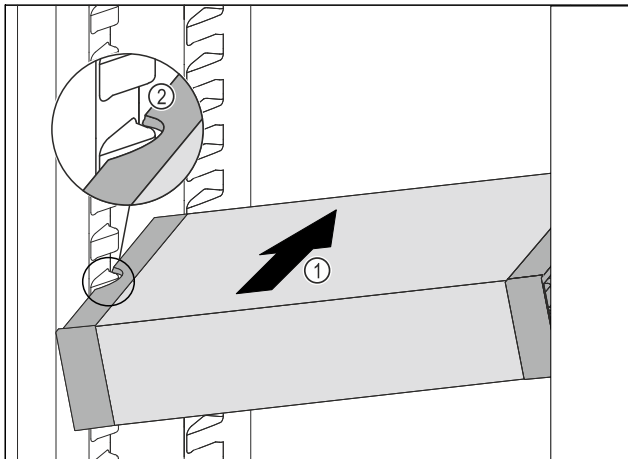

Fig. 115
- Insert the VarioSafe into the fridge section at an angle Fig. 115 (1) until the recesses in the side Fig. 115 (2) of the VarioSafe are at the level of the support rib in the fridge section.